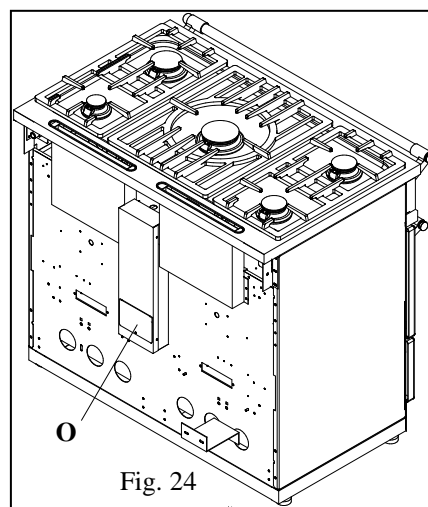
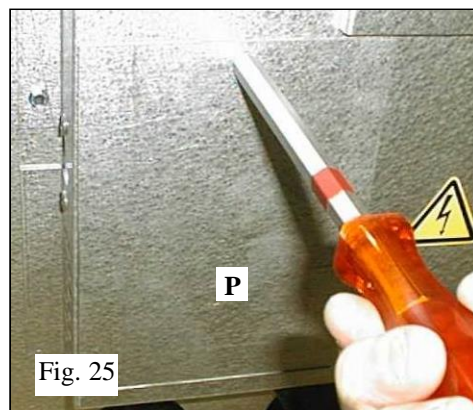

Fig. 24
Fig. 25
- Remove access door **O** (Fig.24: all gas range) or **P** (Fig. 25: gas and electric range).